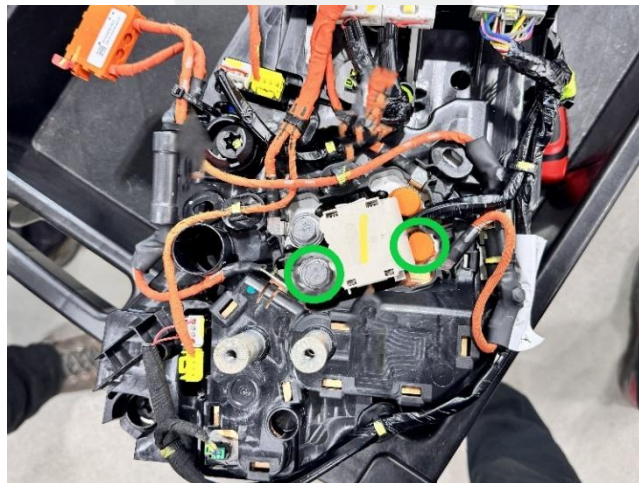

Figure 1
1. Remove the bolts (x2, 13 mm) that attach the AC junction box to fast charge contactor HV harness to the vehicle (Figure 1).
5. Connect the electrical connectors (x2) and engage the connector lock, and then install the clips (x2) and bolts (5 Nm + 60 degrees) (x2, 13 mm) that attach the harness to the vehicle (Figures 1–4).